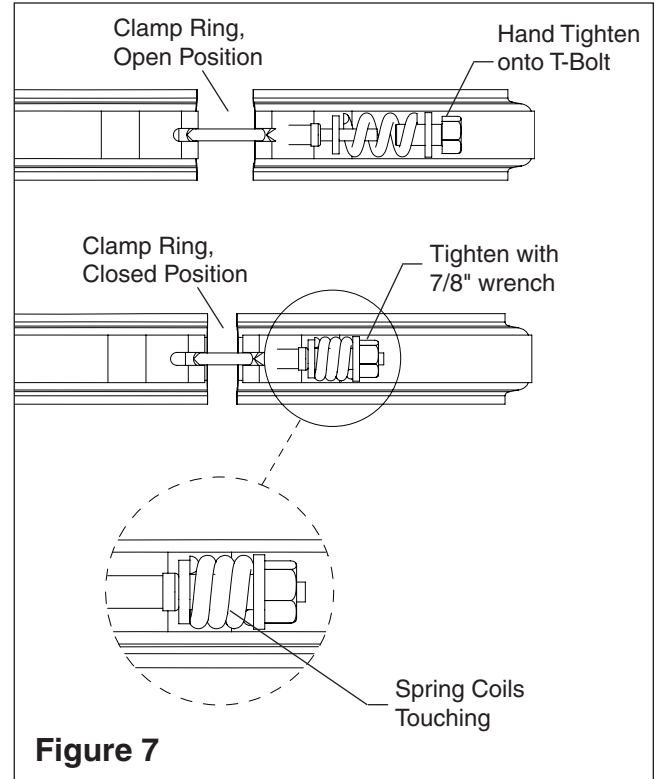

Figure 7
- Note:** The clamp ring is installed correctly only when the spring coils remain touching after tapping the clamp ring (See **Figure 7**).